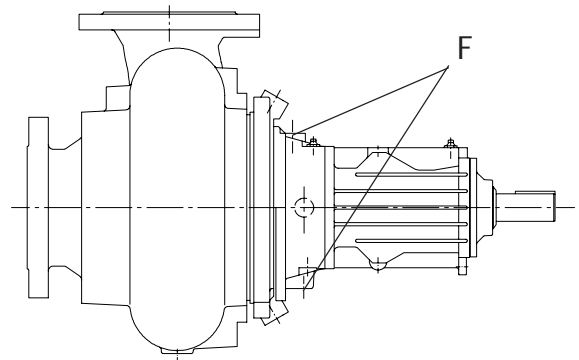

Fig. 1
Pumps are supplied with a flushing water connection (service connection "F", Fig. 1). For normal sewage application this connection is not used. However, in special cases when pumping high concentrations of sludge or mud, it should be connected. It will conduct cleaning water between impeller and lower mechanical seal (515), providing periodic removal of accumulated solids.